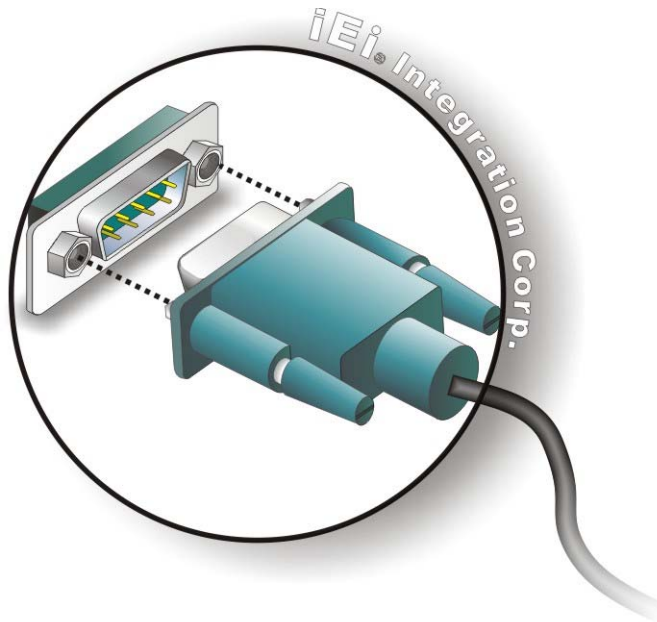

Figure 4-16: Serial Device Connector
Step 2: **Insert the serial connector.** Insert the DB-9 connector of a serial device into the DB-9 connector on the external peripheral interface. See Figure 4-16.